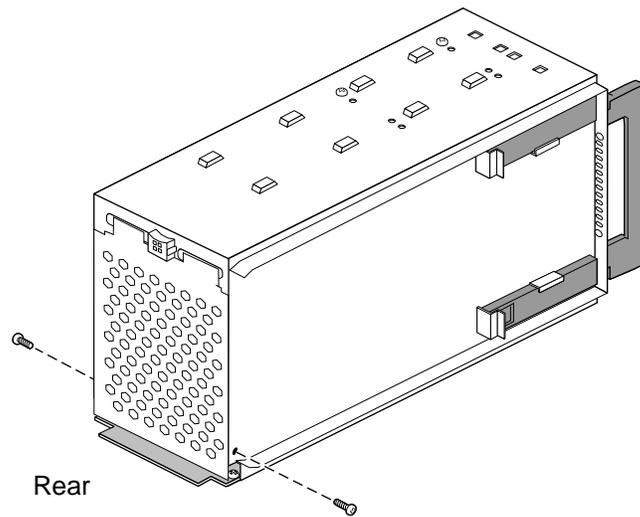

Figure 2-22 Replacing the Rear Access Plate on the Peripheral Carrier
7. Replace the access plate. See Figure 2-22. The plate should cover all of the loose wires (power and SCSI) at the rear of the carrier.